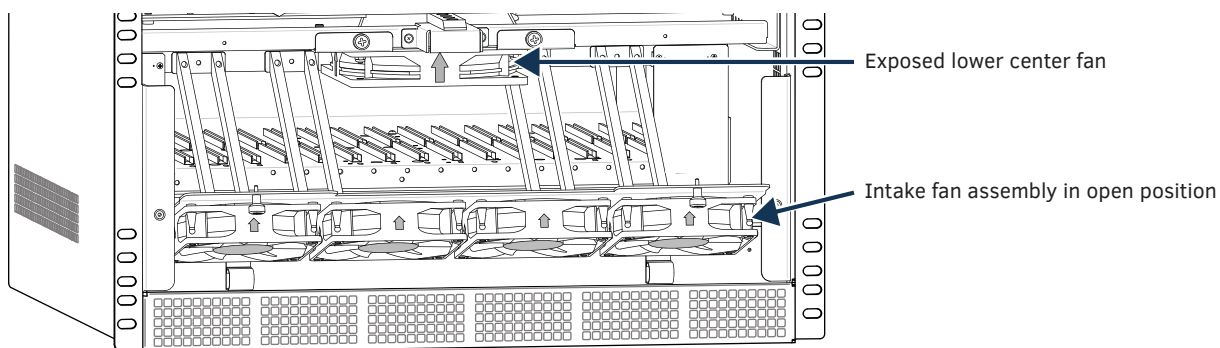

FIG. 47 Intake fan assembly in open position
2. Loosen the two captive screws holding the intake fan assembly in place and lower the fan assembly into its open position (see FIG. 47).